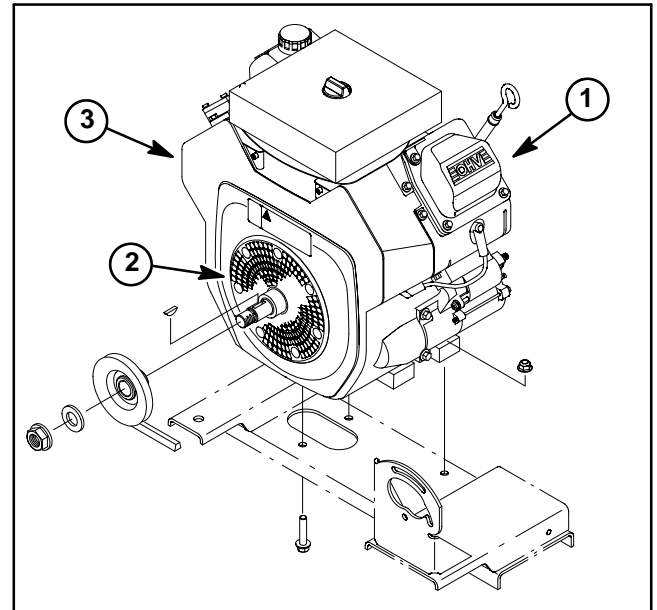

Figure 1
4. Clean grass screen and blower housing of dirt and debris (Fig. 1).